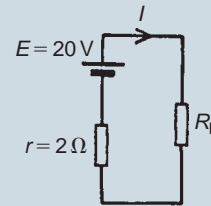

Figure 15.96
12. The maximum power transferred by the source in Fig. 15.96 is: